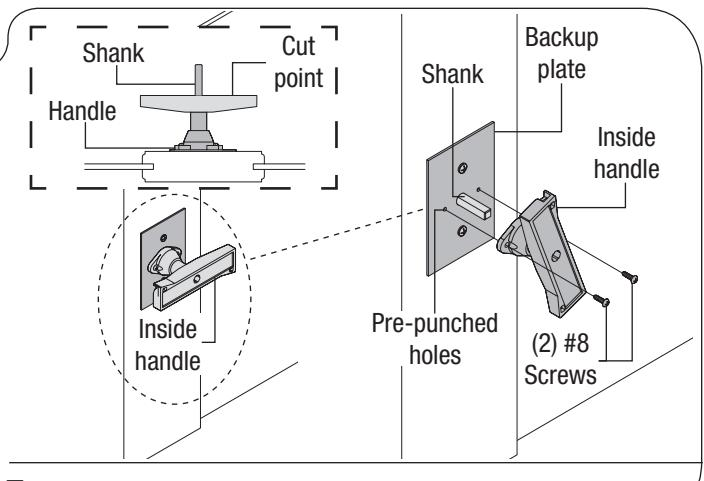

FIG. 7
5120/5145/6100/8300/8500/9700/9800/9100/9405/9600 & WOOD DOORS, (SEE FIG. 7): Position the inside handle over the shank of the outside handle, flush against the lock backup plate. Align the holes in the handle with the pre-punched holes in the lock backup plate, then turn the handle clockwise to secure with (2) #8 screws.